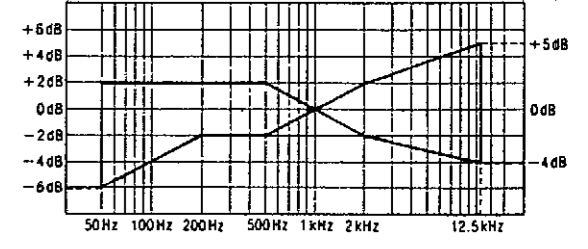

Fig. 9
6. Assure that the level is within the range shown in Fig. 9.